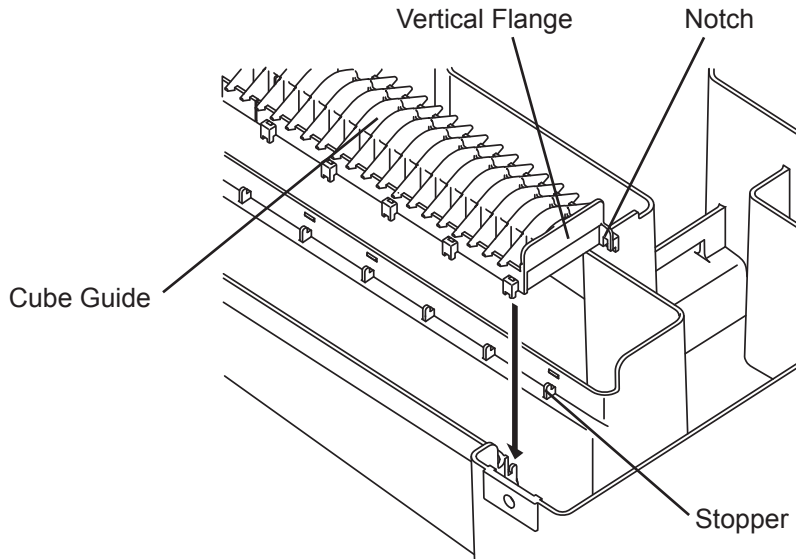

Fig. 18
- 15) Pull the cube guides (quantity varies depending on model) upward to remove them from the water tank. They are snapped in place. See Fig. 18.
- 17) Wash the bin control switch, water tank, float switch, cube guide and overflow pipe by using a nylon scouring pad, brushes and the cleaning solution. In addition to the removed parts, also wash the bin liner and bracket (L) (R) with the solution.